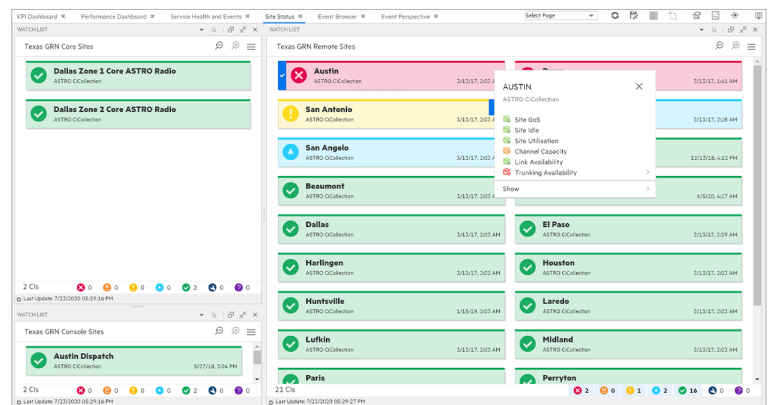
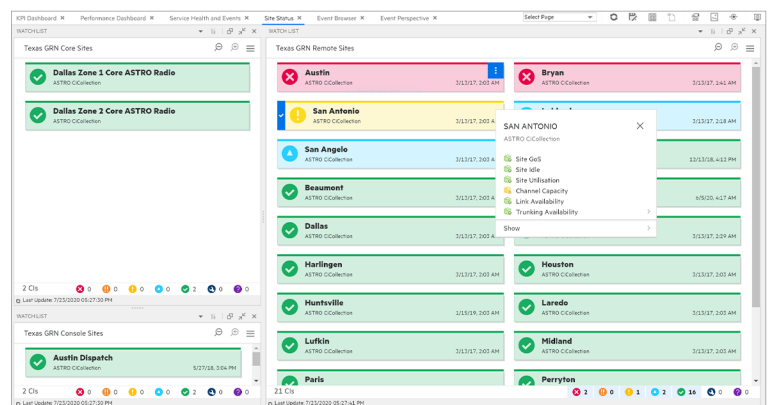

Figure 5a: OBM Site Status - ASTN
Figure 5b: OBM Site Status - SNAN
The OBM Site Status (SS) view (**Figures 5a & 5b**) will show the overall service impact to the network. This screen provides System Administrators with the information needed to properly prioritize workloads.
To best illustrate the importance of the SS is to compare both Austin (ASTN) to San Antonio (SNAN). **Figure 5a** shows that ASTN is in a CRITICAL state, and SNAN (**Figure 5b**) has a MINOR severity level. Hovering over the upper right-hand corner of each box will unveil three vertical dots. Clicking on the dots will provide a drop down list of Key Performance Indicators (KPI) and their current severity status. The KPIs for each site indicate ASTN has lost Trunking Availability and SNAN's Channel Capacity has been impacted. Therefore, it is logical that a System Administrator would allocate resources to ASTN. If, however, a System Administrator were to make resource decisions based on an individual event from the EB, that decision regarding where to allocate resources may not be as straightforward.
For systems with a large number of sites, and to preserve screen real estate, System Administrators can filter the sites to only those that have a problem. This is done by selecting the specific severity levels in the legend at the bottom right-hand side of the screen (**Figures 5a & 5b**). If a site were to experience a problem and then get resolved, the notification within the SS would automatically disappear.